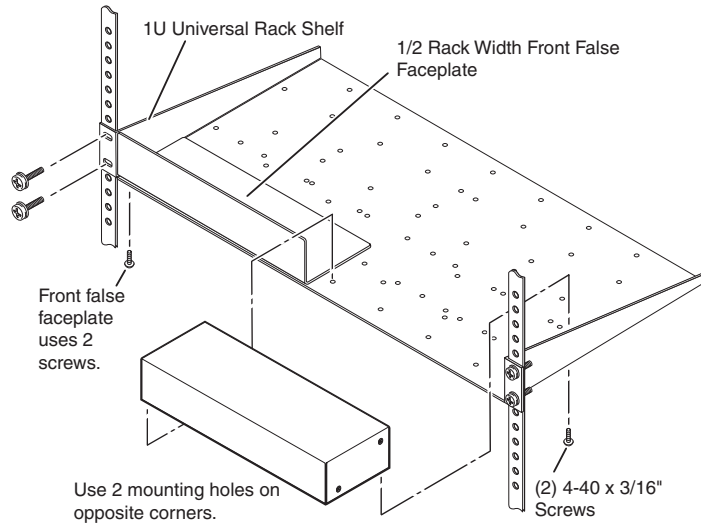

Figure 34. Mounting an SW DVI Plus Two-input or Four-input Switcher on a Standard 9.5-inch Deep Rack Shelf
2. Mount the switcher on the rack shelf, using two 4-40 x 3/16 inch screws in opposite (diagonal) corners to secure the unit to the shelf (see figure 34 on the next page).